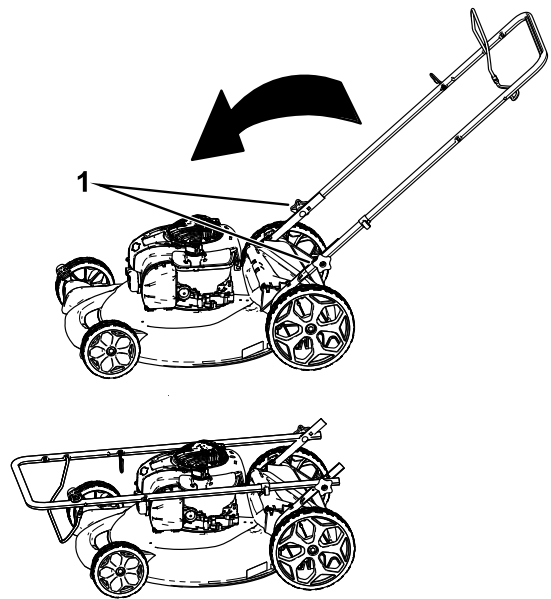

Figure 16
1. Loosen the handle knobs until you can move the handle freely (Figure 16).
1. Handle knob (2)
2. Move the handle forward as shown in Figure 16.
3. Remove the dipstick by rotating the cap counterclockwise and pulling it out (Figure 16).
10. Read the oil level on the dipstick (Figure 16).